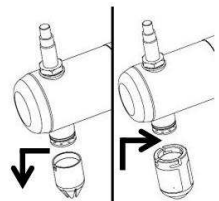

fig. 8
- Change garnishing nozzle against cleaning nozzle (tool kit/pre order) (fig. 8)